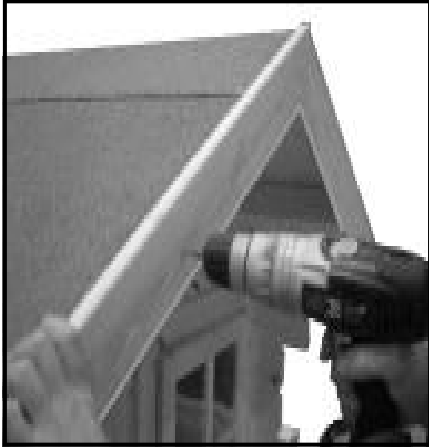

Fig K1
1. Fascia boards can now be drilled and screwed ( fig K1 ) with 1x 50mm screw at each roof bearer and the roof edgings.